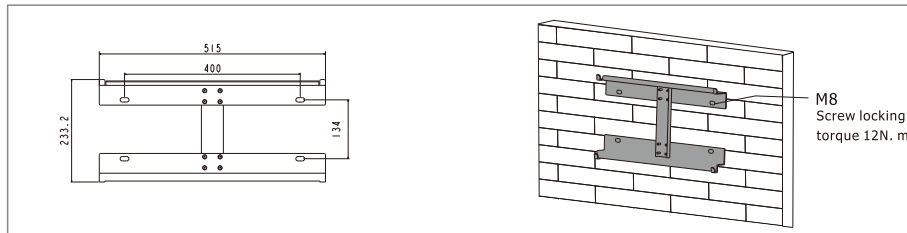

Figure 3.4-1 Install the inverter hanging plate
Step 1. Please use the mounting bracket as a template to drill 4 holes in the right positions (10mm in diameter,and 80mm in depth). Use M8 expansion bolts in accessory box and fix the mounting With a 12mm drill bracket onto the wall tightly.The installation of inverter support is shown in Figure 3.4-1.